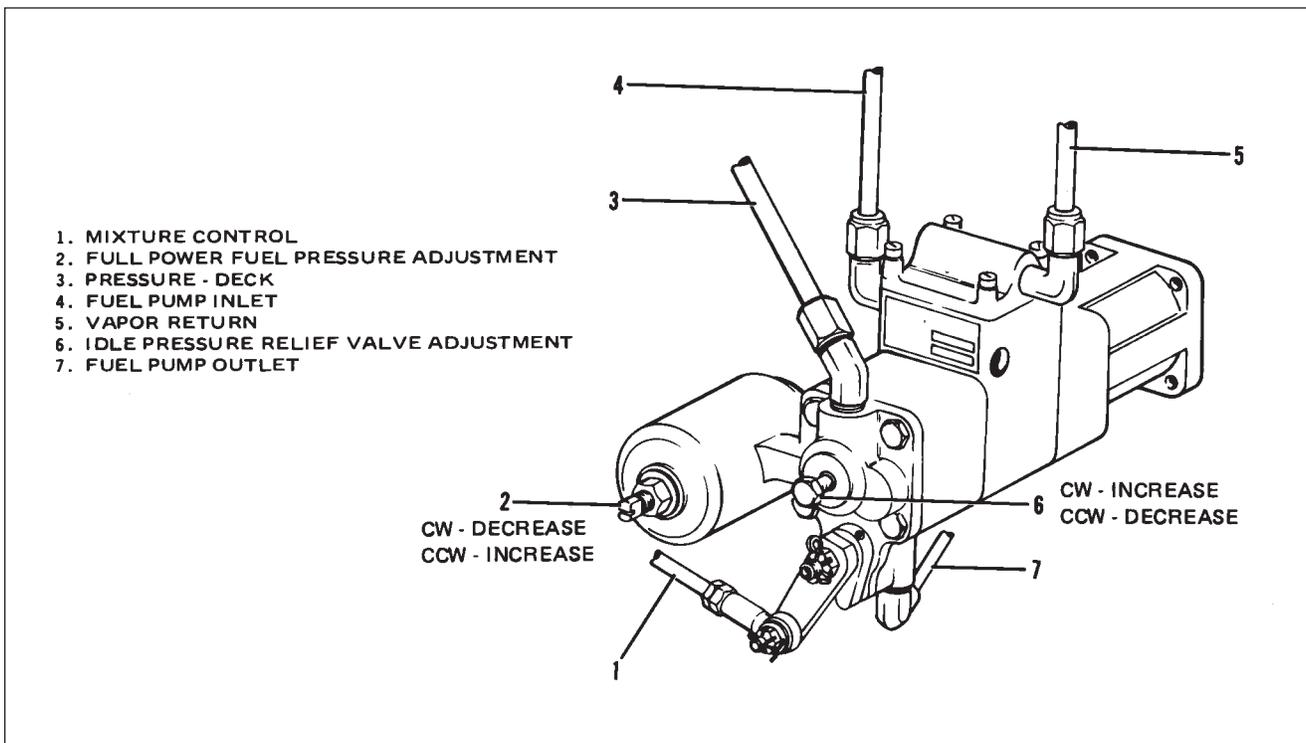

Figure 73-5. Sectional View of Altitude Compensating Fuel Pump Assembly
- C. While maintaining  $700 \pm 25$  RPM, set the idle fuel pressure at  $6.5 \pm 0.25$  psi by adjusting the idle pump adjustment screw (refer to Figure 73-5, item 6); clockwise adjustment increases pressure; counterclockwise adjustment decreases pressure.
7. Check and Adjustment for Full Power Performance: (Refer to Figure 73-5.)
- C. If adjustment is required, loosen the jam nut on the adjusting screw located on the aneroid housing of the fuel pump. (Refer to Figure 73-5, item 2.) Clockwise adjustment decreases fuel flow reading; counterclockwise adjustment increases fuel flow reading; one full turn will cause a 1.0 to 1.5 gph change. Use CAUTION when loosening and tightening the jam nut so as not to change settings or over torque the jam nut.